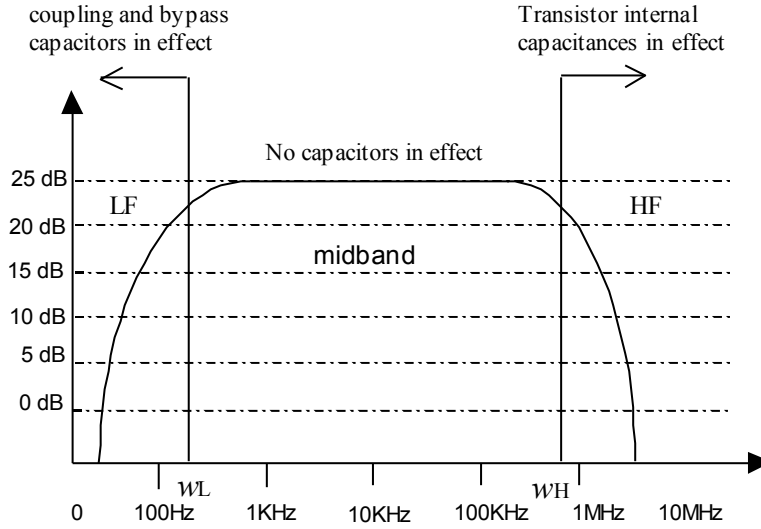

Figure 2 General frequency response of the amplifier
Figure 2 shows the typical frequency response of an amplifier stage. The basic regions of the response are as follows: low frequency region where the equivalent impedance of the coupling capacitors and bypass are not zero, midband region where the coupling and bypass effect has disappeared, and the high frequency region where the effects due to the internal capacitances of the device start to show up. The amplifier transfer function or the overall gain is a frequencies dependent function as given below
The amplifier **bandwidth**,  $BW = \omega_H - \omega_L$ , where  $\omega_L$  and  $\omega_H$  are the low and the high 3dB points as shown in figure 2.
- 4- Sketch the amplitude response as a function of the input signal frequency. (Use a semi-log graph paper, the frequencies are located on horizontal axis (log scale) and the amplitude is in dB located on the vertical axis (linear scale) as shown in figure 2. (Take extra points on the curve whenever you encounter a significant change in output while input is kept constant).